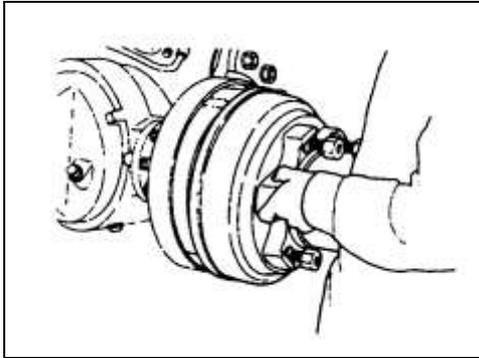

Fig.3-4
4) Remove brake drum(refer to Fig.3-4);